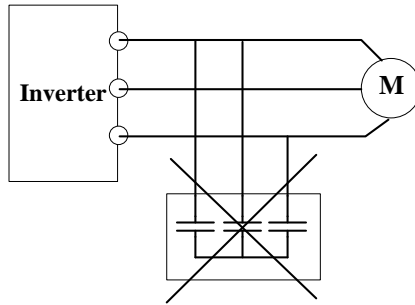

Fig 1-6 Capacitors are prohibited to be used.
- Do not connect any varistor or capacitor to the output terminals of the drive because the drive's output voltage waveform is pulse wave, otherwise tripping or damaging of components may occur. In addition, do not install circuit breaker or contactor at the output side of the drive as shown in Fig 1-6.